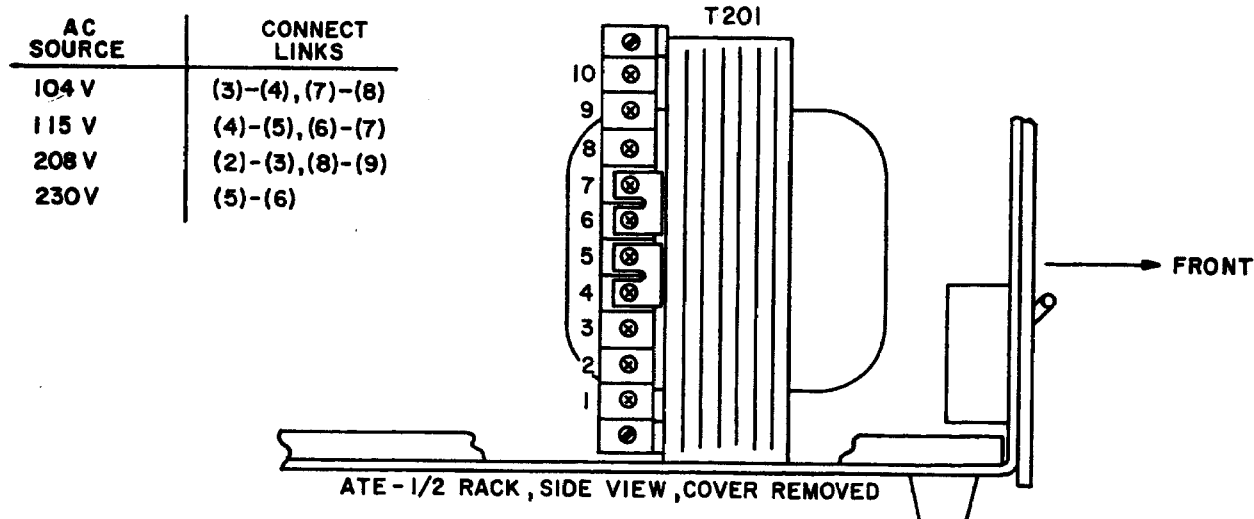

FIG. 2-4 A-C INPUT SOURCE VOLTAGE SELECTION, ATE 1/2 RACK GROUP.
- 2-5 This power supply is normally supplied for operation on a single phase, nominal 115V a-c line. For conversion to other a-c source voltages, refer to FIG. 2-4. Select your nominal source voltage and change the links on the barrier strip of T201 according to the table provided in FIG. 2-4. The circuit breaker (CB101) remains equally effective at all input voltages.